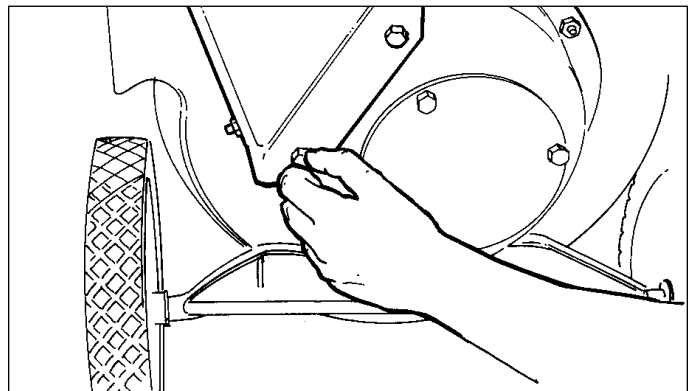

Figure 3. Attaching Hopper to the Rotor
1. Attach the hopper to the rotor housing, using care to engage the metal lip of the hopper liner to the inside of the housing as shown in figure 3.
2. Secure the hopper to the rotor housing using (2) 5/16 x 1/2 hex head bolts and (2) 5/16 flat washers. Do not tighten hardware at this time.